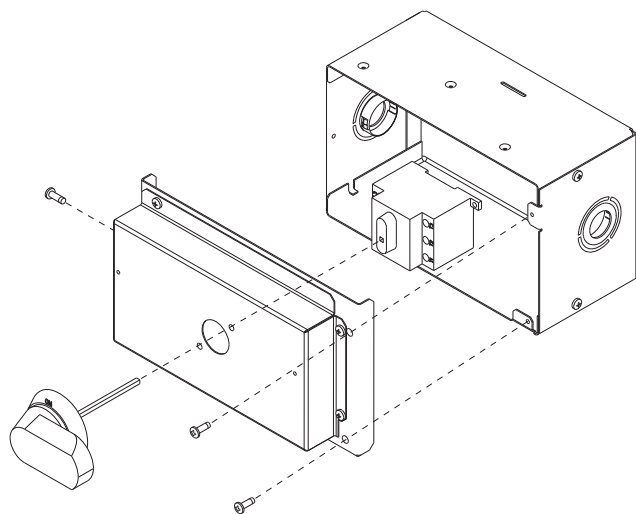

Fig. 25 — NFD Handle and Shaft Assembly
2. Remove (3) cap head screws that secure the NFD enclosure front cover — (2) on the face of the cover and (1) on the left side cover. See Fig. 25.
5. Insert the shaft with the cross pin on the top of the shaft in the horizontal position. See Fig. 25.
10. Secure the handle to the painted cover with (2) screws and lock washers supplied.
11. Engaging the shaft into the handle socket, re-install (3) cap head screws on the NFD enclosure.